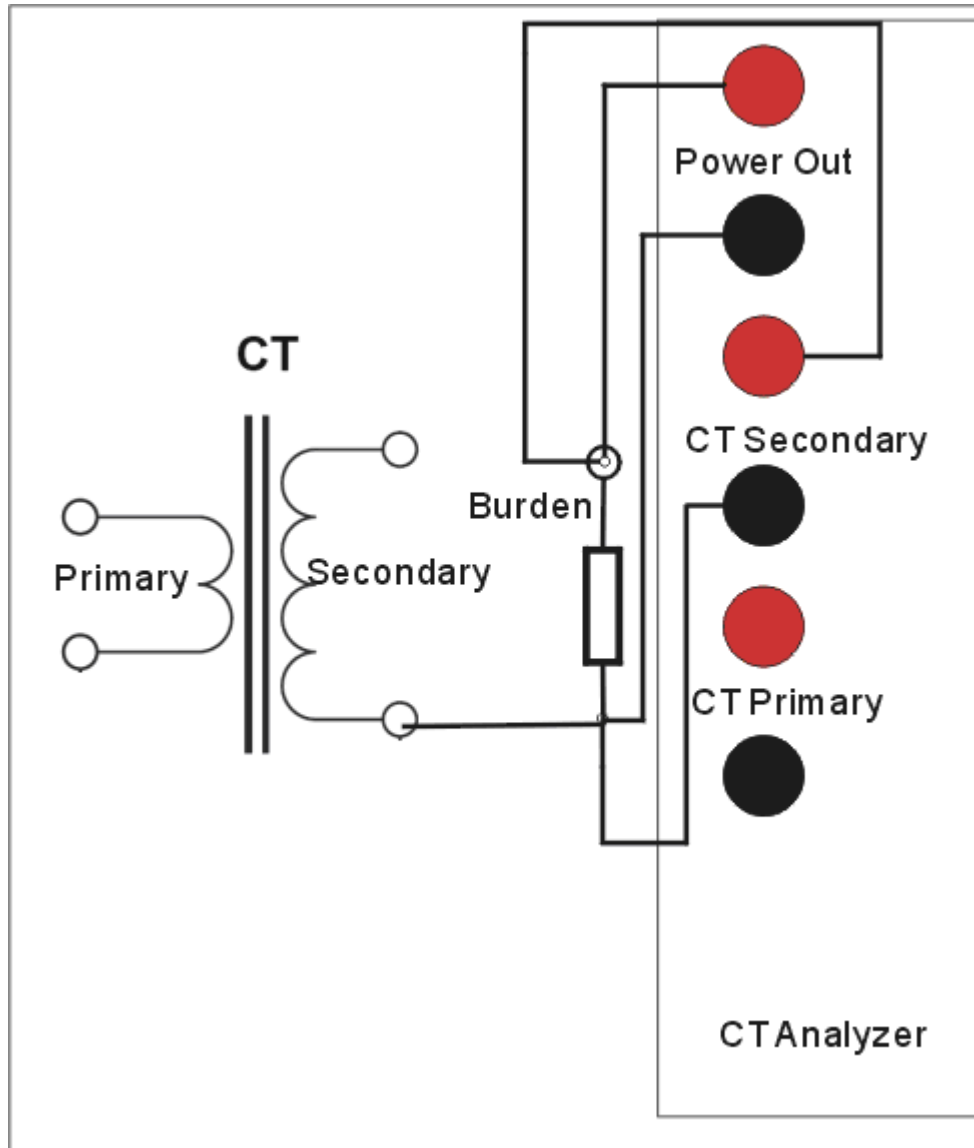

Figure 3.1 Secondary burden test connection
Please connect Analyzer and sample CT as figure 3.1 in CT secondary burden test
- 2) Disconnect sample CT secondary winding with secondary loop as figure 3.1.